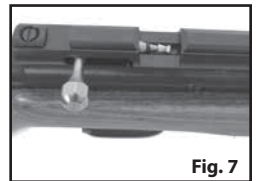

Fig. 7
- Open the bolt by pulling the bolt handle all the way back (Fig. 7).